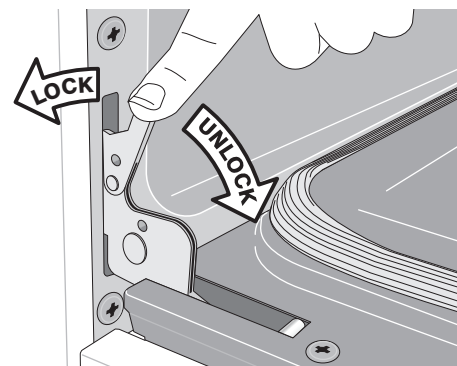

Figure 79: Unlocking and locking the hinges
2. Pull the hinge locks on both left and right hinges down from the oven frame completely towards the oven door (Figure 79). A tool such as a small flat-blade screwdriver may be required.
4. Push the door hinge locks up towards and into the oven frame for both left and right oven door hinges to the locked position (Figure 79).